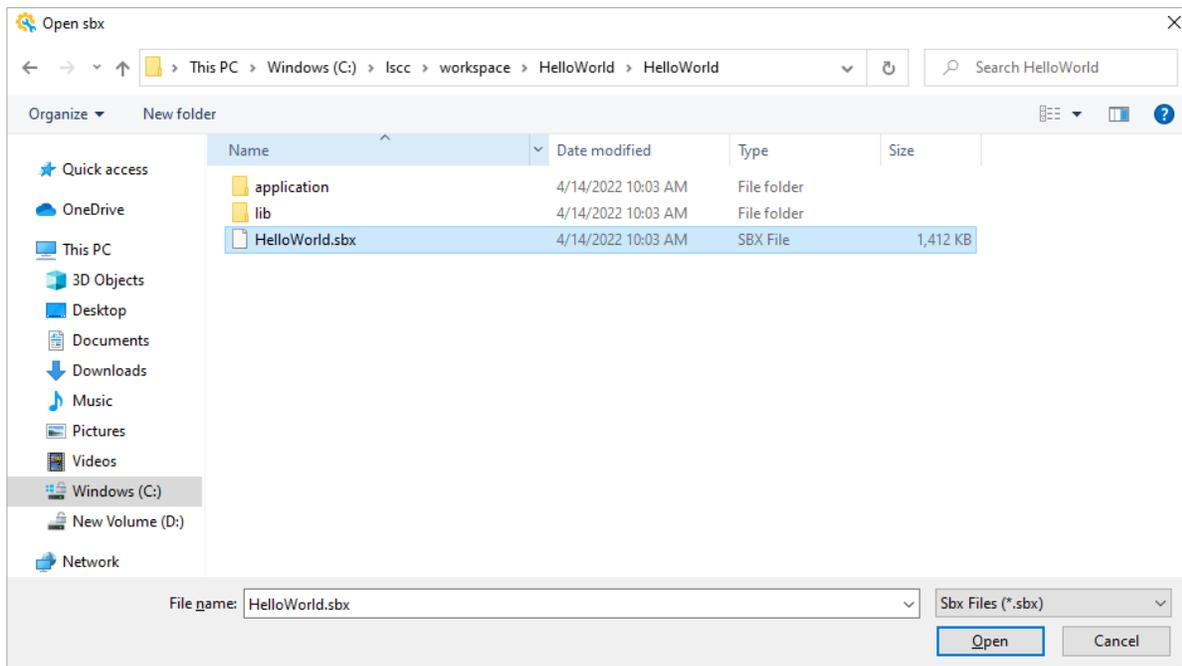

Figure 2.34. Open Existing Project
- Browse to find the default project workspace folder or your own project workspace folder. Choose the sbx file, such as HelloWorld.sbx (Figure 2.34).